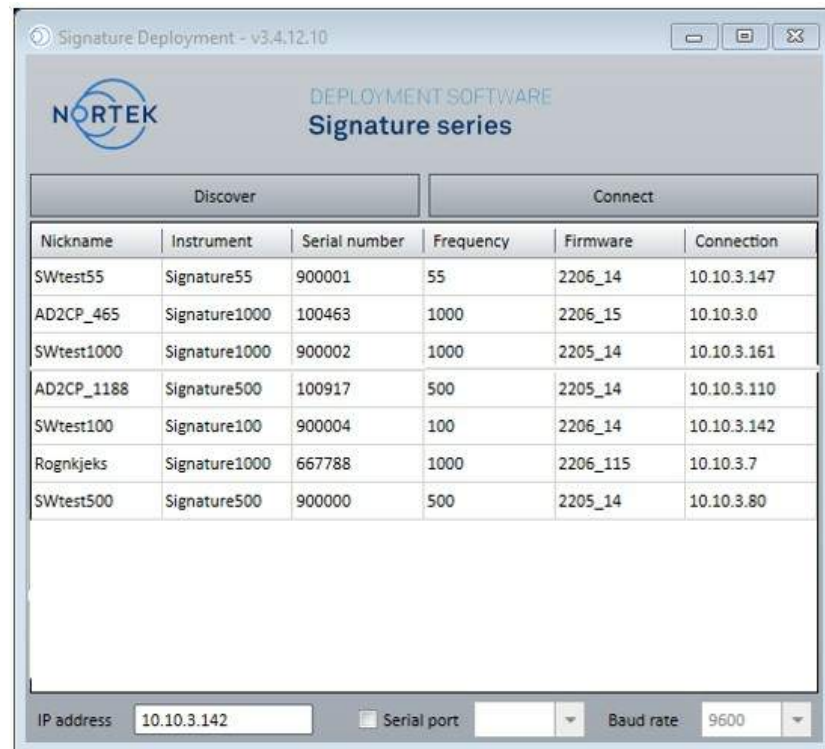

Figure 5. Discovery dialog
2. Open the Nortek Deployment software and click **Connect** to launch the Discovery feature (figure 5). This will produce a window with a list of instruments available on the network. It may take a few minutes before the Discovery tool lists a newly connected instrument. This is due to the IP address assignment process (more details are available in Appendix). If the instrument is not shown in the list, wait approximately 90 seconds and click **Discover** again. The computer is capable of communicating with the instruments shown with a white background in the list.